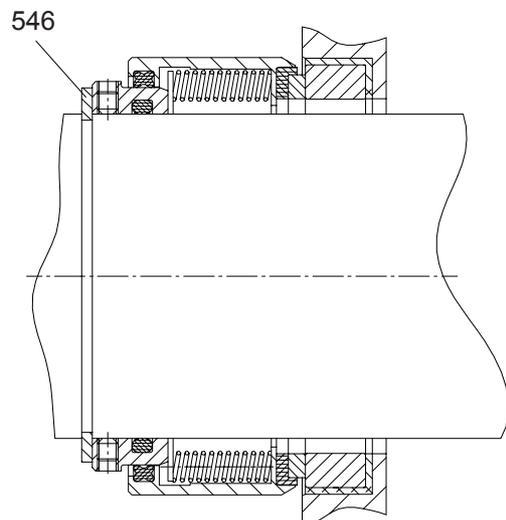

Fig. 15
**d) Stainless-steel-shroud seal - type "X" (Fig. 15)**